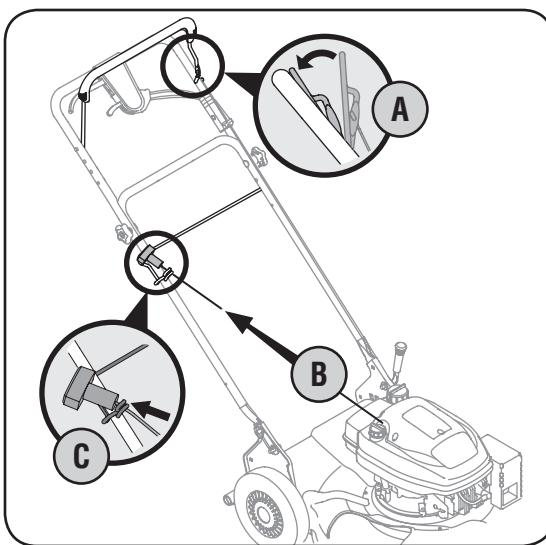

Figure 3
3. The rope guide (pig's tail) is part of the grass catcher support rod attached to the lower handle. See Figure 3.